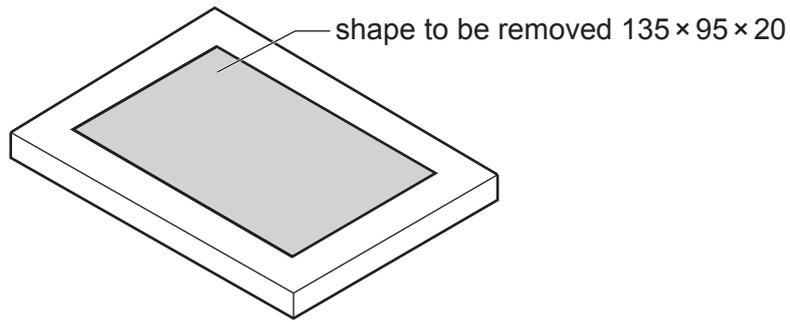

Fig. 11.5
- (f) Fig. 11.5 shows the MDF frame with the cut-out shape marked out. A power router will be used to remove the shape.